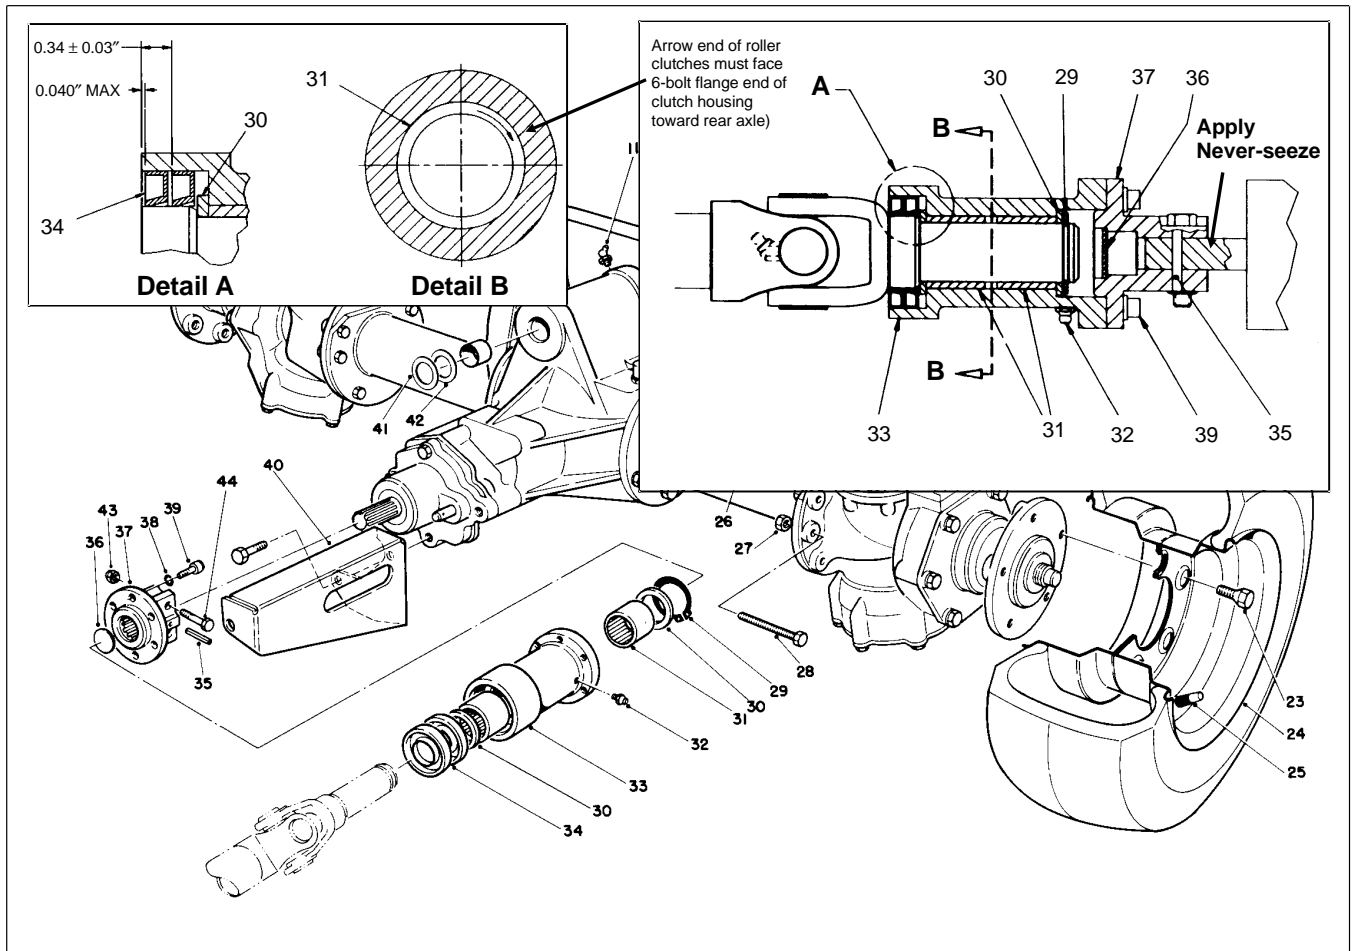

Figure 8
2. Use a hammer and punch to drive roll pin (Fig. 8, Item 35) out of axle coupling (Item 37) and rear axle shaft. Loosen two (2) capscrews and locknuts securing coupling to axle shaft. Slide coupling off of shaft.
3. Remove six (6) socket head capscrews and lockwashers securing drive shaft yoke flange to flange on front axle differential (not shown).